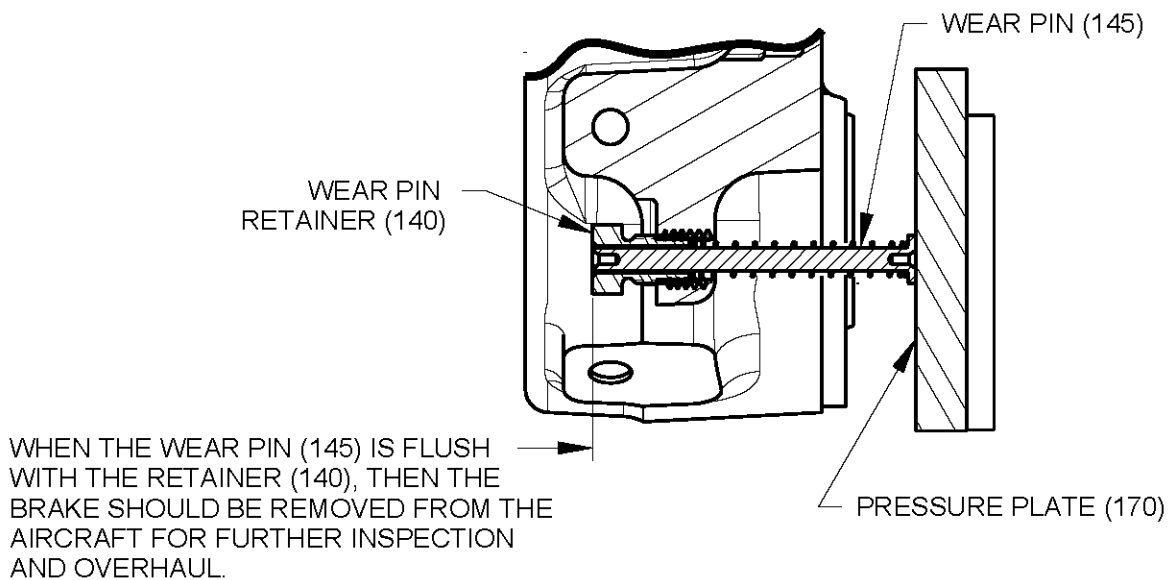

Figure 1 Examine the wear pin
Refer to IPL Figure 1 for component identification.
Refer to Figure 1. Make sure the parking brake is on. Starting at 0 psig, slowly apply hydraulic pressure of 1050 ± 50 psig to the brake. Examine the wear indicator pin (145). When the pin is flush with the wear pin retainer (140), the brake must be removed from the aircraft and is ready for further inspection leading up to an overhaul.